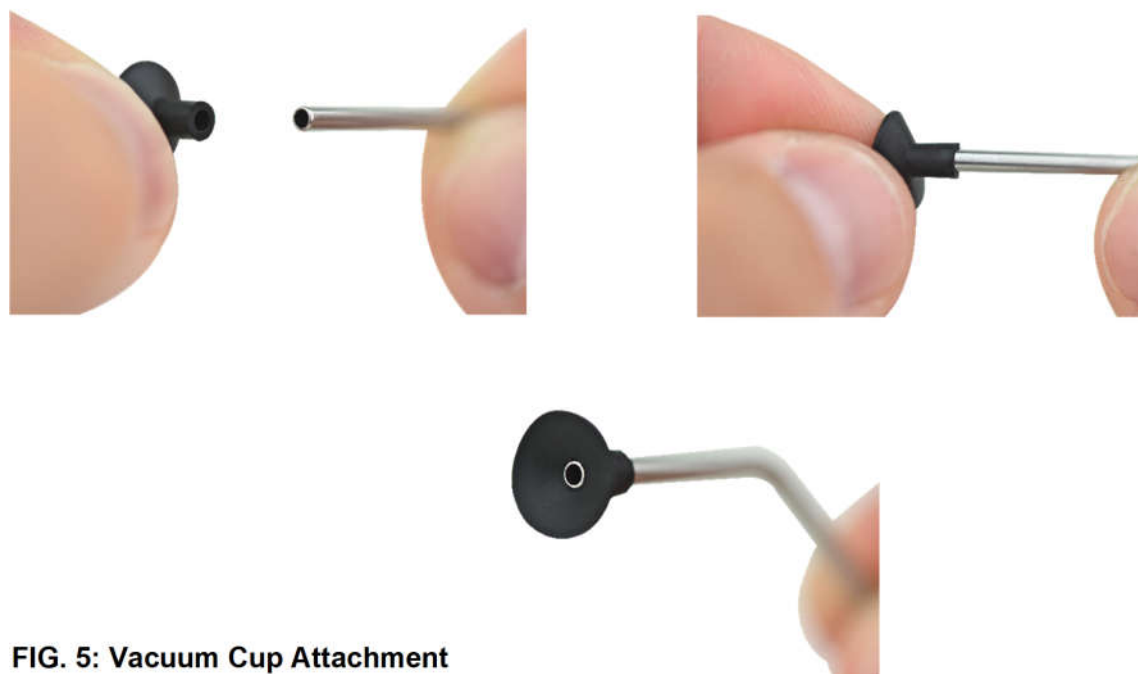

FIG. 5: Vacuum Cup Attachment
3.	Gently push the stem of the vacuum cup onto the pickup tip. See FIG. 5. Ensure that the pickup tip does not protrude into the “cup” area of the vacuum cup, as this may result in damaging the component that is to be picked up. A successful setup will be confirmed by a tight fit that does not deform the surface of the vacuum cup.